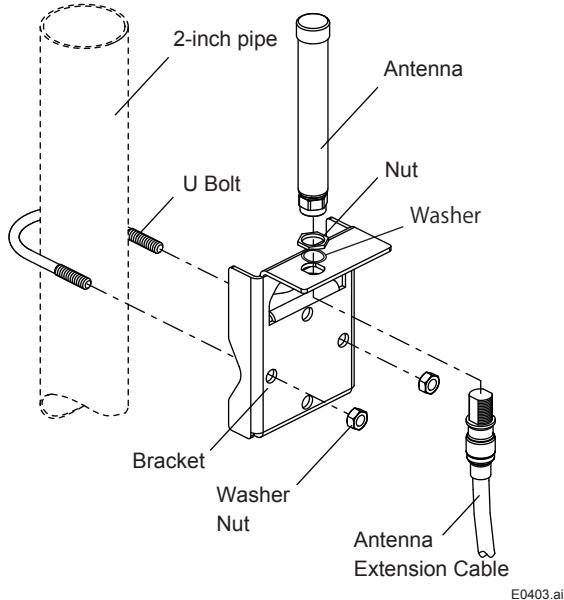

Figure 4.2 Example of fixing of remote antenna
- Fix the antenna extension cable to the bracket with the provided nut as shown in the figure 4.2.